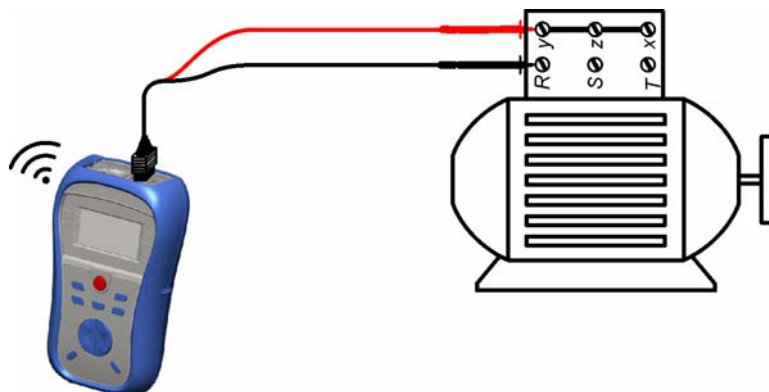

Figure 5.7: Universal test cable application
- ❑ **Connect** test leads to the tested object (see *figure 5.7*).